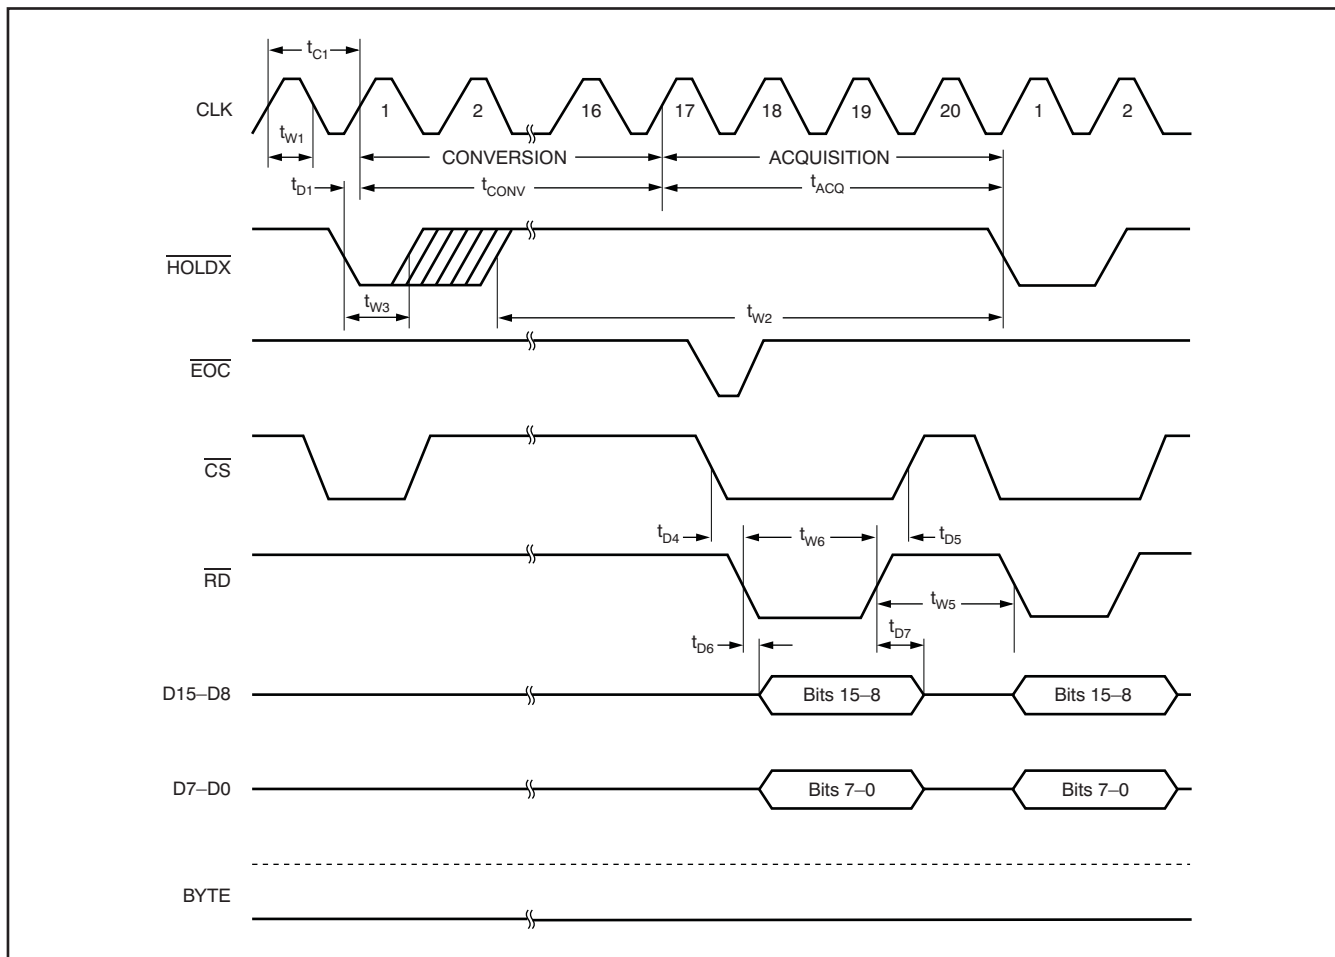

Figure 1. Read and Convert Timing
- (1) Assured by design.
- (2) All input signals are specified with rise time and fall time = 5ns (10% to 90% of BV_{DD}) and timed from a voltage level of $(V_{IL} + V_{IH})/2$.
- (3) See Figure 1.
- (4) BYTE is asynchronous; when BYTE is 0, bits 15 to 0 appear at DB15 to DB0. When BYTE is 1, bits 15 to 8 appear on DB7 to DB0. \overline{RD} may remain LOW between changes in BYTE.
- (5) Only important when synchronization to clock is important.